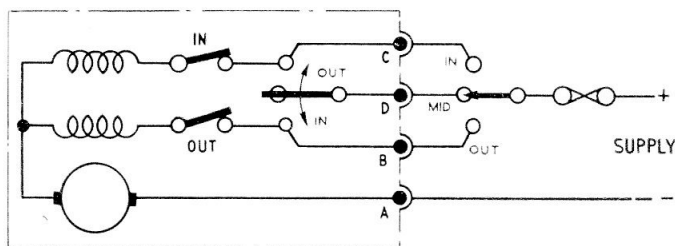

Fig. 2. Circuit diagram
3. The motor is rated at 0.008 h.p. at 5,800 r.p.m., and the field coils also control the operation of the brake. The travel of the piston is controlled at its extreme positions by two limit switches, operated by a trip lever and connected as shown in the circuit diagram in fig. 2. They are of the make-and-break type, and are fitted with silver contacts. In addition, this actuator is provided with mid-switching.